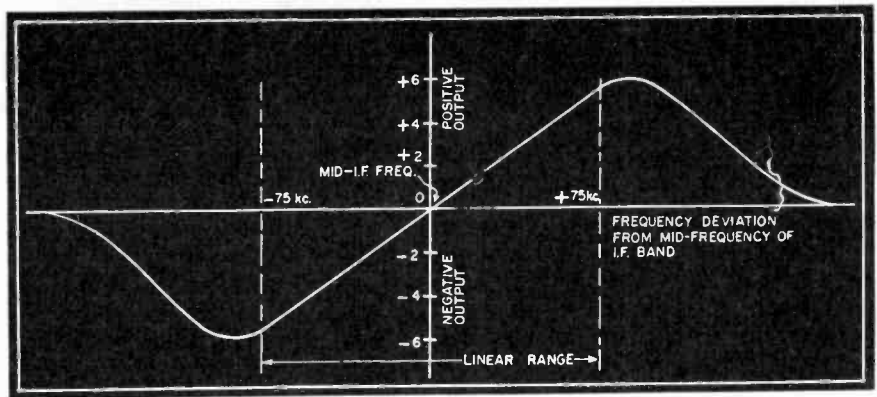

Fig. 2 Discriminator output plotted against variation of the input frequency. Zero on the graph corresponds to the intermediate frequency of the receiver.
(2) *Adjustment of the Discriminator.* With the DC (20,000-ohm-per-volt or electronic) voltmeter connected across the discriminator output, and with the 10-megacycle signal generator connected to the grid of the limiter through a .0001 ufd condenser, the discriminator can be adjusted to give the proper amplitude versus frequency characteristic. This adjustment consist of tuning the secondary of the transformer so that the discriminator gives zero output at the IF mid-frequency, and symmetrical positive and negative DC output for equal frequency deviations to either side of the mid-frequency. Of course, the signal generator must be accurately calibrated both as to frequency and amplitude, since it is always necessary to feed a constant amplitude signal to the discriminator. The actual measurement is made in DC volts of discriminator output versus frequency of the generator, where the signal is kept at a *constant amplitude*. The result should be similar to the curve of Fig. 2. The linear portion of the curve should extend 75 kilocycles on either side of the IF mid-frequency. A detailed description of test procedure for both discriminator and limiter will be found in a later section. At this point, only the general nature of the required tests and the necessary test equipment is being described.
One of the most useful of all devices is the frequency swept signal generator. These are made by several manufacturers and operate at a variety of frequencies. In some of these units, a motor driven condenser across the main tuning condenser rotates, thereby sweeping the frequency of a signal generator about some center frequency at a 60 cps rate. Usually, the maximum frequency deviation is adjustable, as well as the mid-frequency and the attenuator setting. Such a device is always used in conjunction with an oscilloscope and can be used to line up quickly and accurately the IF amplifier, limiter or discriminator stages. The correct tuning of the discriminator is accomplished by connecting the oscilloscope to the discriminator output, and the frequency swept oscillator to the grid of the limiter. With the mid-frequency and both extremities accurately adjusted, the discriminator output will respond at a 60 cps rate to the frequency deviations of the oscillator. The overall response is immediately presented on the oscilloscope screen and all necessary adjustments may be made as a result of visual observations. A test set-up such as this allows inter-stage tuned circuits between the limiter and discriminator to be tuned quickly without the necessity of going through a laborious point-by-point procedure. The picture presented on the oscilloscope should resemble Fig. 2.